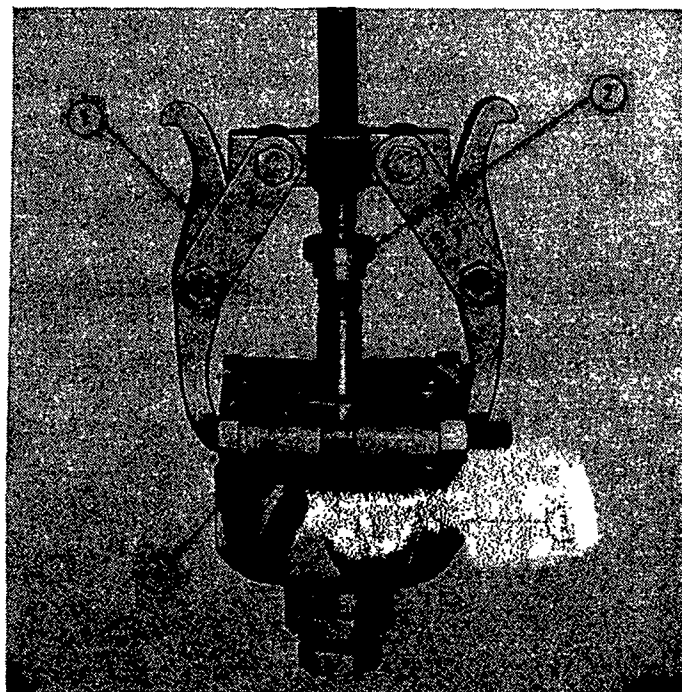

Figure 52
2. Using the tools shown in Figure 52, pull the front bearing from the rotor shaft. If the bearing is to be re-used, the pulling attachment must contact the inner race only.